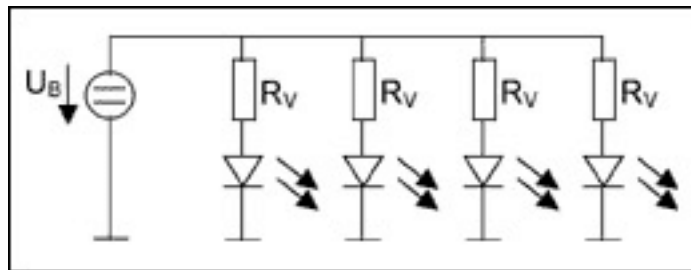

Figure 3. The configuration shown operates several red, yellow, or green LEDs in parallel, with very little color difference or variation in brightness.
- The emitted color (emitted wave length) remains relatively constant with variations in the forward current, operating voltage, and ambient temperature. Standard green LEDs emit a wavelength of about 565nm, with a small tolerance of only 25nm. Operating several such LEDs in parallel does not present a problem (Figure 3) because color differences are very small. The normal variation in forward voltages produces slight differences in light intensity, but those are also minor. You can usually neglect any differences among
A Li-Ion battery when fully charged provides an output voltage of 4.2V, which drops to a nominal 3.5V after a short period of operation. That voltage further declines to 3.0V as the battery discharges. If white LEDs are operated directly from the battery as shown in Figure 3, the following problems occur: